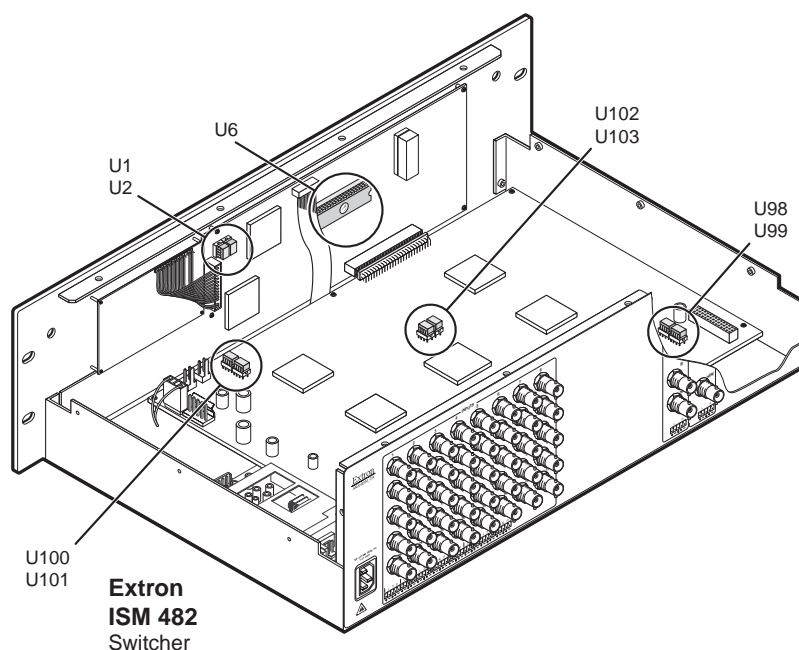

Figure 7-2 — ISM firmware chip locations
In some cases the ISM's firmware may require replacement with an updated version. There are nine user-replaceable firmware chips (figure 7-2): U1, U2, and U6 on the front panel circuit board and U98, U99, U100, U101, U102, and U103 on the main circuit board. The U-numbers are printed on the circuit boards. Extron recommends that you send the unit in to Extron for service and updates.
2. Locate the firmware chip(s) to be replaced on the main or front panel circuit board (figure 7-2).